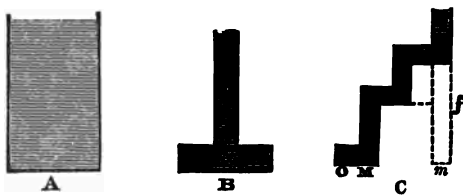

FIG. 53.—PRESSURE VARIES WITH THE DEPTH.
138. Pressure on the Bottom of a Vessel.—In a vessel whose bottom is level and sides perpendicular, the pressure of the water upon the bottom is evidently equal to its weight, as in Fig. 53, A. If, now, a vessel with a narrow stem, but widening into a broad base, as in Fig. 53, B, be filled with water, the water at *a*, being pressed upon by the weight of the column of water above it, transmits this pressure equally in *every* direction to the water surrounding it. This does the same in turn, so that the pressure on every part of the bottom of the vessel is the same as on the part under the column. Then, in Fig. 53 C, the pressure at E is equal to that at D, and therefore the pressure at F (or at H), is the same as it would be at *f* if the first joint of the pipe were extended straight down to *f*. And also the pressure at M or O is the same as it would be at
13. If a tight cover were put upon B (Fig. 53), and it were turned upside down, would the pressure of the water upon the new base be the same as upon the old one?